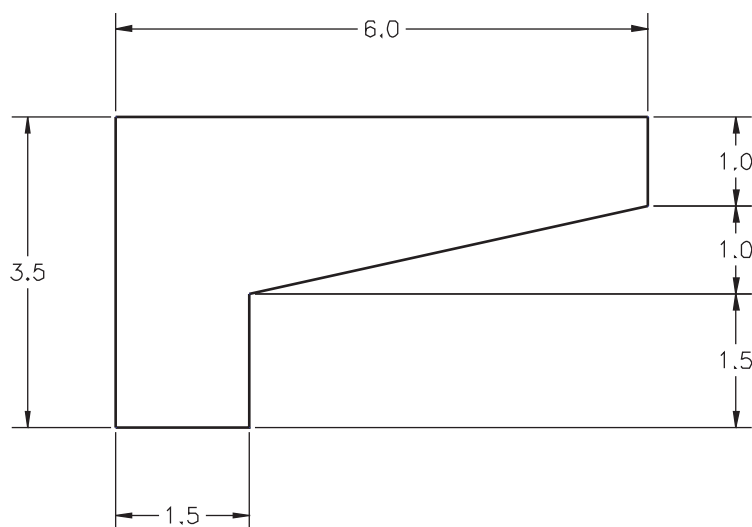

Fig. 26-2
3. In the upper left viewport, draw the object shown in Fig. 26-2.